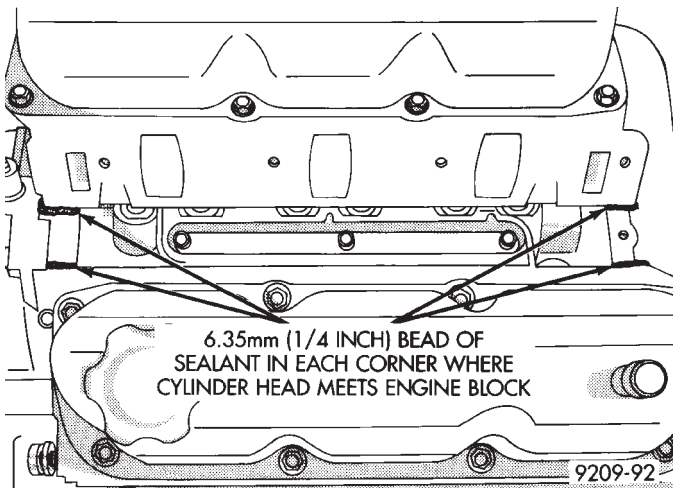

Fig. 15 Intake Manifold Gasket Sealing
(1) Clean all surfaces of cylinder block and cylinder heads.
(2) Place a drop (about 1/4 in. diameter) of Mopar Silicone Rubber Adhesive Sealant or equivalent, onto each of the **four** manifold to cylinder head gasket corners (Fig. 15).